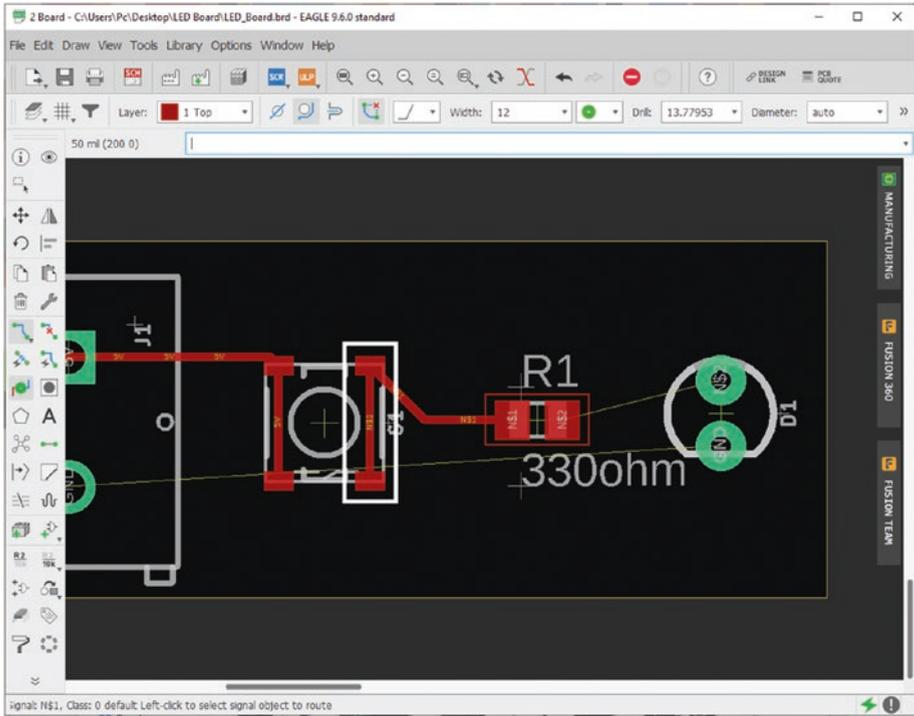

Figure 5-74. Connect buttons right side
- 23. Left-click the top-right contact on the push button again and connect it to the right-bottom contact “N\$1.” See Figure 5-74.